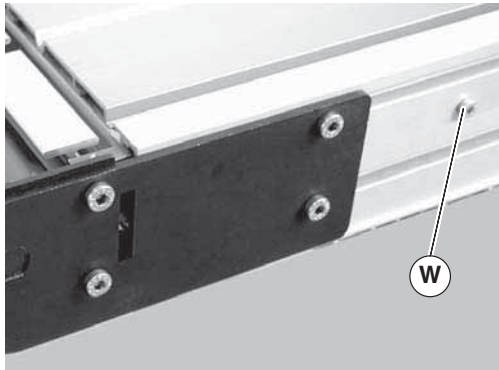

Figure 6
- Roll out conveyor belt (Figure 6, item R). Loosen (4) screws (X) on both sides of knuckle (E). Slide frame (Q) into knuckle (E). Tighten screws (X) to 60 in-lb (7 N-m) on both sides of conveyor.